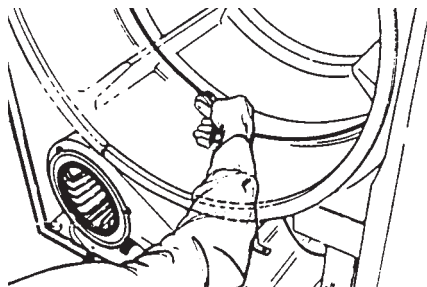

Fig. 4-37
2. Reach underneath drum and behind motor to locate idler pulley. Push idler pulley to left to release drum belt tension. Remove the belt from the motor pulley. (Fig. 4-37)